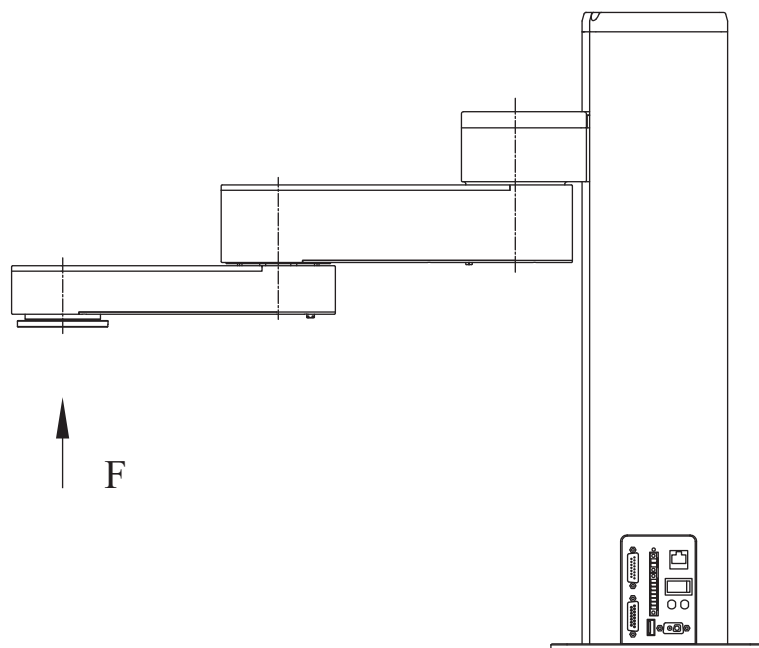

Figure 10
The external force of the Z axis shall not exceed 120N (as shown in Figure 10).
5.Power cable hot-plugging forbidden. Warning when the positive and negative poles of the power supply are reversed (as shown in Figure 10).